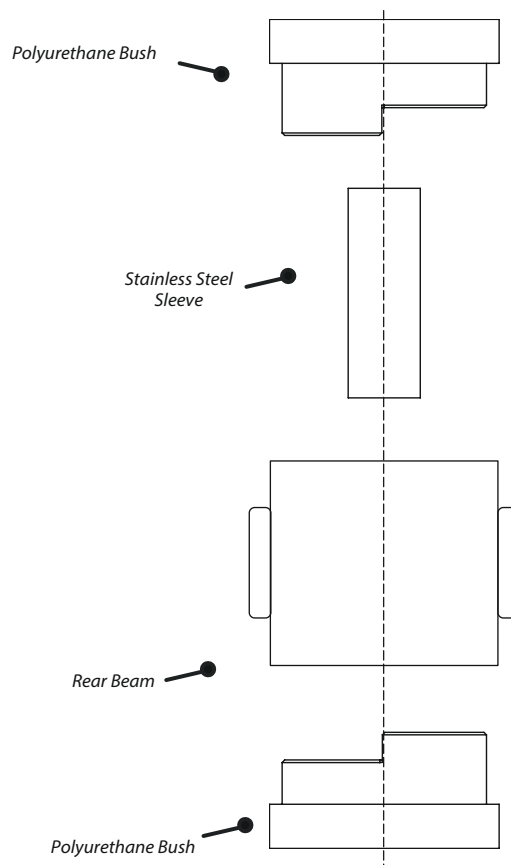

Figure 1
3. Press one of the bush halves into the beam as shown in Figure 1.